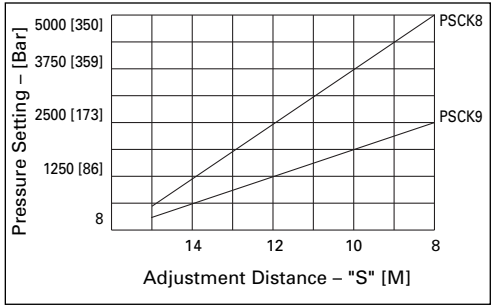

Figure 4, Graph
**Note:** Adjustment distance "S" in Figure 4 is measured from end of adjustment screw to the switch body (where lock nut snugs up against).
3. Tighten lock nut (3 FT-LBS [4-N-M]) clockwise while holding pressure setting with wrench. (See graph, Figure 4, for settings [graph is only a rough guideline; to find switching points more precisely use a pressure gauge]).